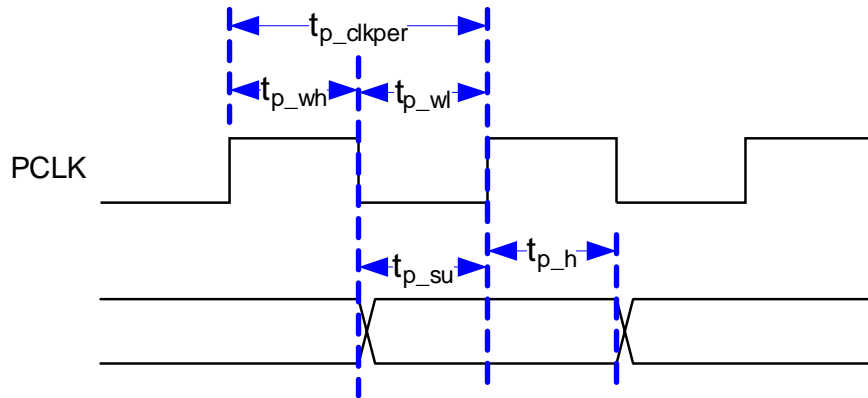

Figure 2. Parallel and BT.656 I/F General Timing
- (1) The BT.656 I/F accepts 8-bit per color, 4:2:2 YCb/Cr data encoded per the industry standard though PDATA(7:0) on the active edge of PCLK (that is, programmable) as shown in Figure 2.
- (2) Clock jitter should be calculated using this formula: $\text{Jitter} = (1 / f_{\text{clock}} - 28.35 \text{ ns})$. Setup and hold times must be met during clock jitter.